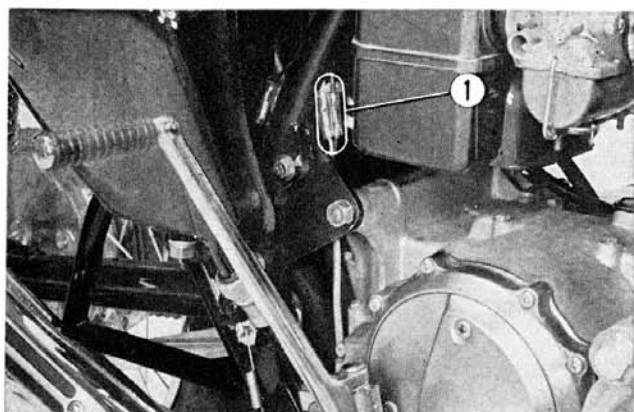

Fig. 7-15 ① Contact breaker lead
2. Disconnect the lead connectors (yellow and blue leads) at the center of the frame, right lower side. (Fig. 7-15)